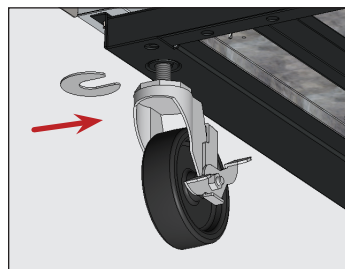

Fig. 9. Insert the castor shim(s). be sure to tighten the castor stem.
Fig. 9. If leveling legs or castors will be used, rotate the appliance on the skid to install them. When moving the appliance, do not use countertops, doors, drawers, or grills as a lifting point.
5. On the low end of the appliance, loosen the castor bolt enough to slide provided castor shims between the castor bearing and the bottom rail of the appliance. See fig. 9.
6. Install the desired number of shims. See fig. 9.